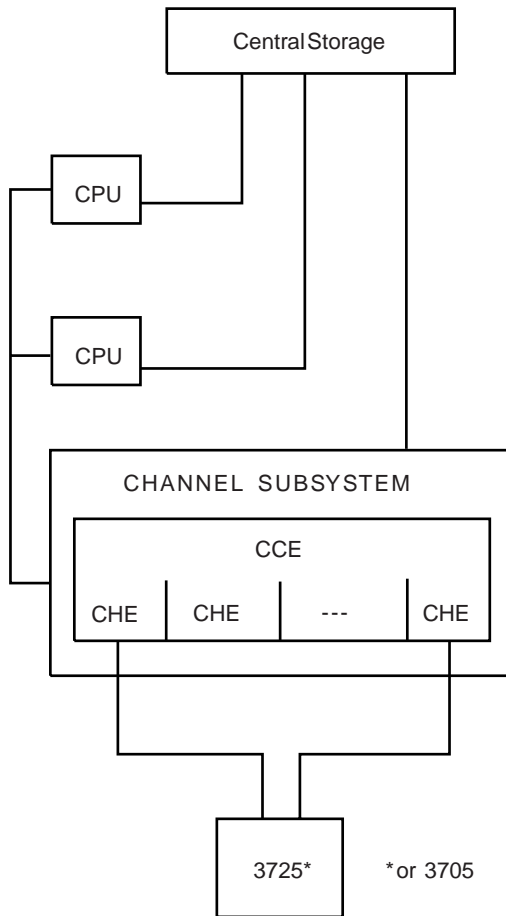

Figure 12-5. Configuration of a 3725 Communication Controller for Maximum Availability (3090 Complex)
- Figure 12-5 on page 12-6: 3725 Communication Controller